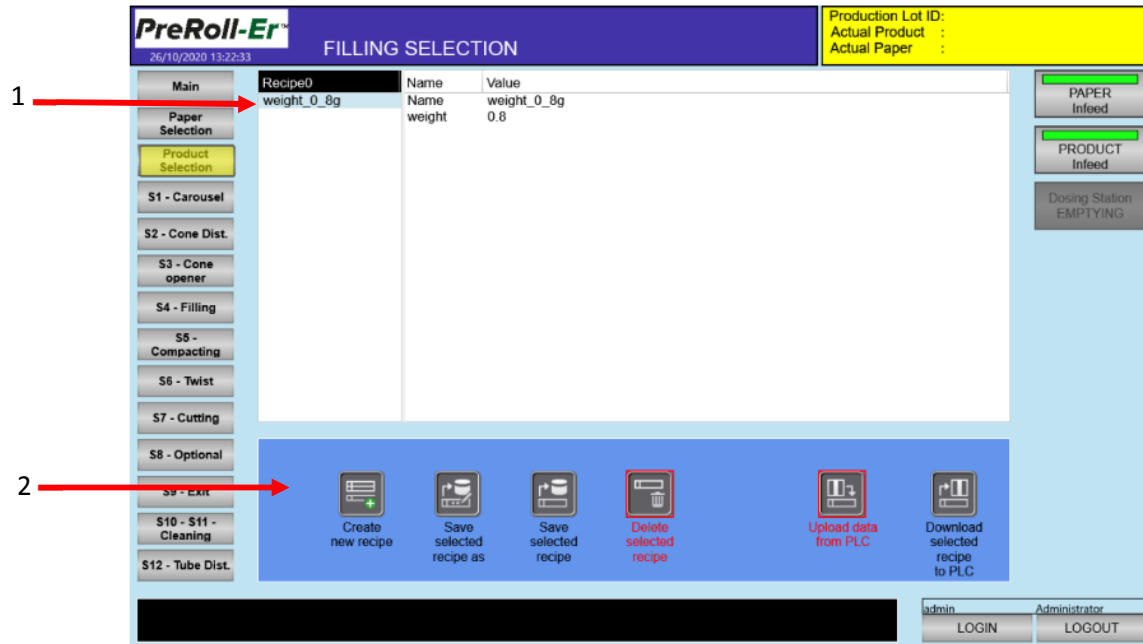

Figure 6-6 Product selection screen
1. **Main screen:** This screen displays a list of the pre-existing saved product recipes as shown in Figure 6-6 above. Simply click on the name of the recipe to select it.